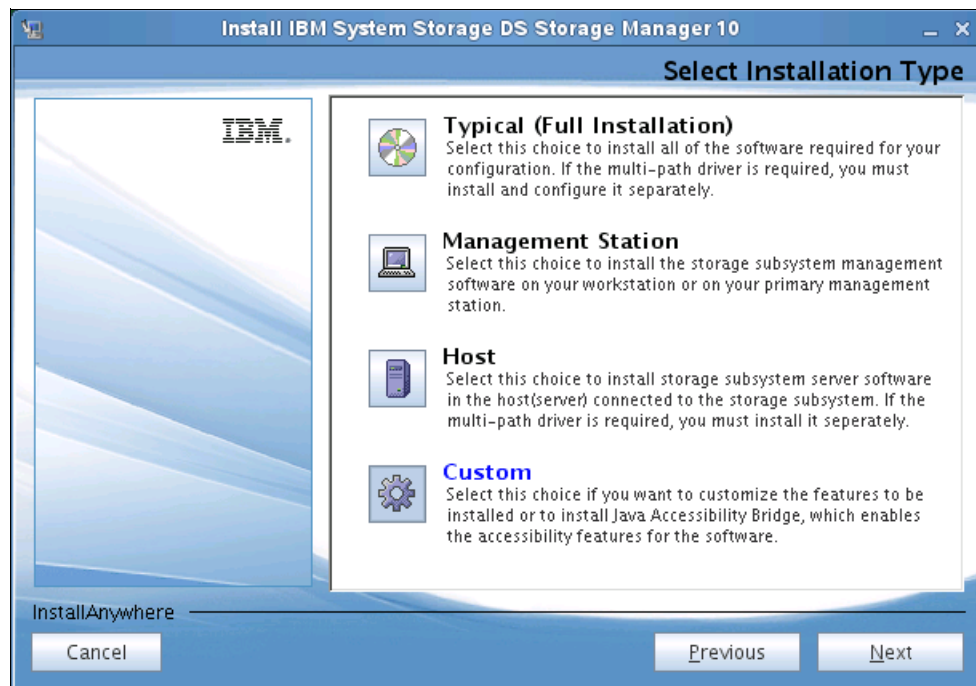

Figure 4-18 Installation type
7. Select the **Custom** installation type and click **Next**, as shown in Figure 4-18. We recommend the Custom installation because you can see what components of Storage Manager will be installed in each Install Set (Typical, Management Station, or Host), and you can also modify them.